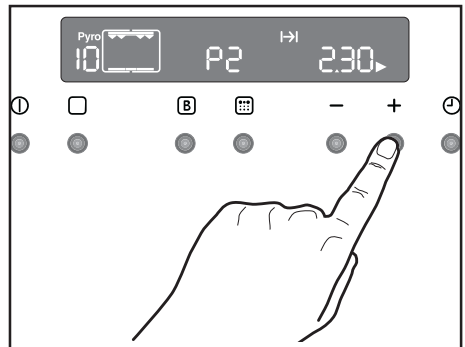

Fig. 21
2. The Cooking Duration symbol  will flash for 5 seconds; during this time push '-' or '+' buttons to select the pyrolytic 1 (P 1) or pyrolytic 2 (P 2) function (Fig. 21).